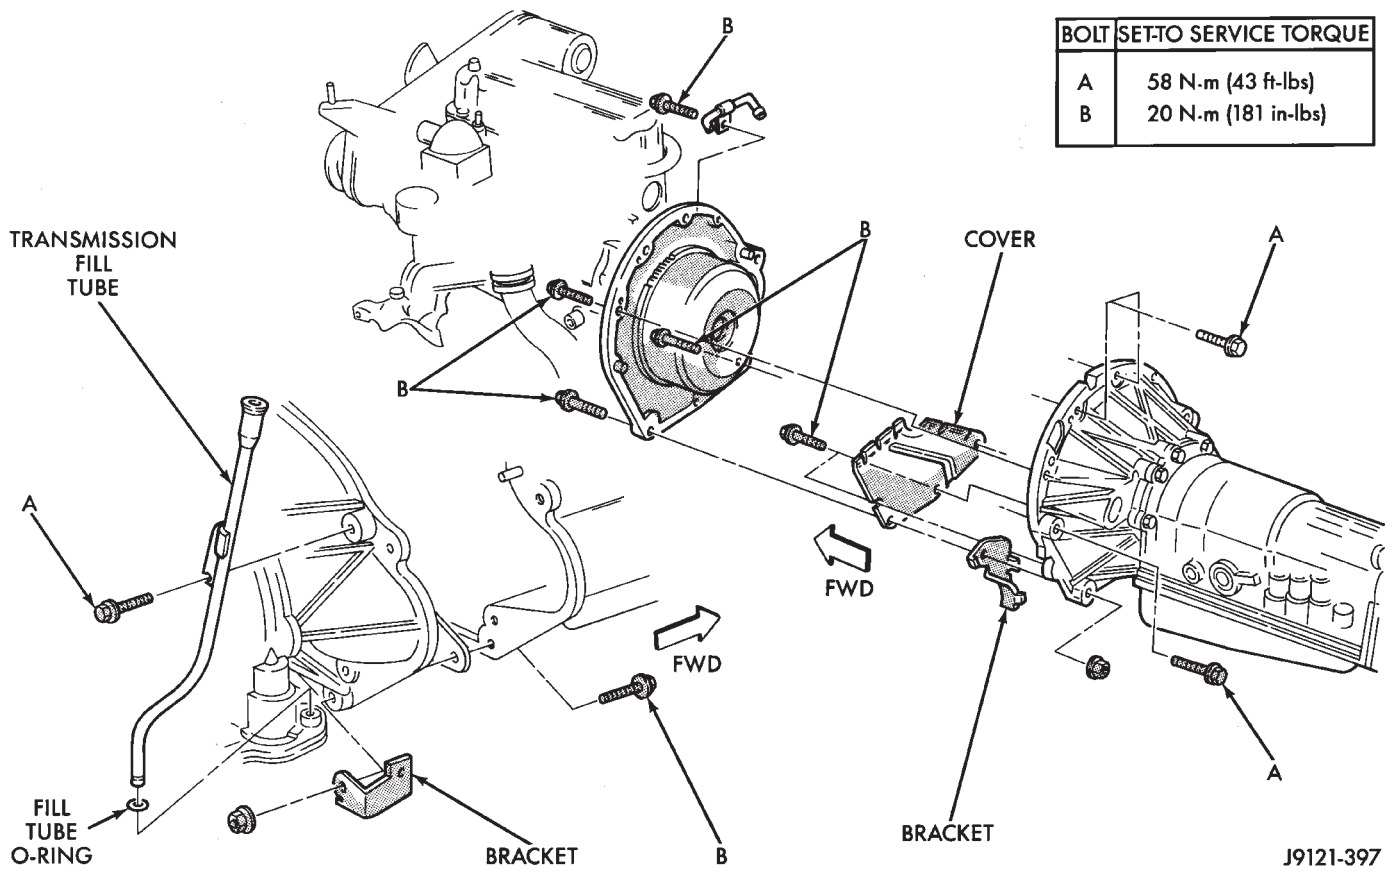

Fig. 53 AW-4 Transmission Attachment
(1) Mount transmission on transmission jack. Then secure transmission to jack with safety chains.
(2) Lubricate converter drive hub and oil pump seal lip with Mopar Mercon transmission fluid. Then install converter. Be sure converter is fully seated in oil pump gears before proceeding. Hold converter in place with C-clamp or strap attached to converter housing.
(3) Align and position transmission and converter on engine.
(4) Remove clamp or strap used to hold torque converter in place.
(5) Move transmission forward seat and it on engine. Be sure torque converter hub is fully seated.
(6) Install converter housing-to-engine bolts (Fig. 53).
(7) Install converter-to-drive plate bolts.
(8) Install and connect starter motor.
(9) Install and connect crankshaft position sensor.
(10) Install transfer case on transmission. Tighten transfer case attaching nuts to 41 N·m (30 ft. lbs.) torque
(11) Connect transfer case shift linkage and vacuum hoses.
(12) Connect exhaust components.
(13) Install rear crossmember and remove jack used to support transmission assembly.
(14) Connect speed sensor wire harness to sensor.
(15) Connect wire harness to park/neutral position switch.
(16) Align and connect front and rear propeller shafts.